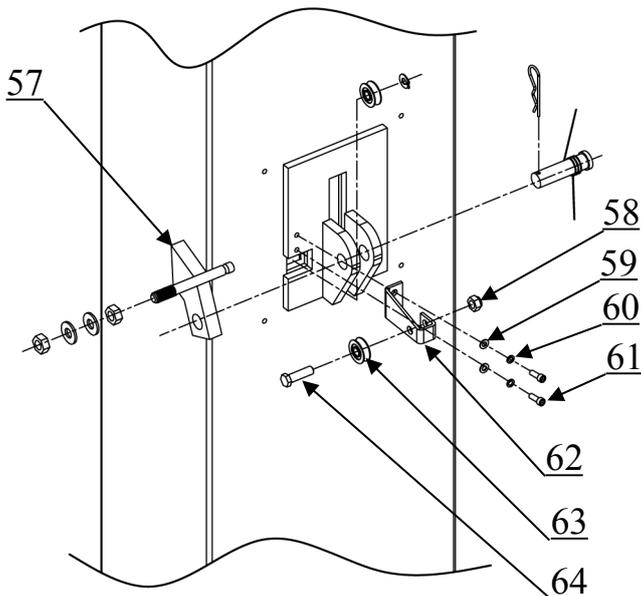

**Fig. 16**
2. Using the prescribed rotary hammer drill, drill all the anchor holes and install the anchor bolts. Then tighten the anchor bolts (**See Fig. 16**).